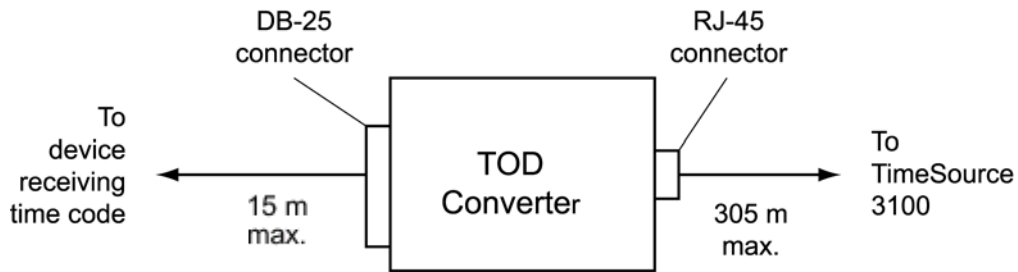

Figure 3-20. RJ-45 to DB-25 TOD Converter Connections
3. Install a user-supplied Category 5 four-pair RS-422 cable with RJ-45 connectors on each end, between the TimeSource 3100 Shelf and the converter (see Figure 3-20).
4. Install a user-supplied RS-232 cable, with DB-25 connectors on each end, between the converter and the device receiving the time code (see Figure 3-20). See Table 3-3 for the DB-25 connector pinouts.